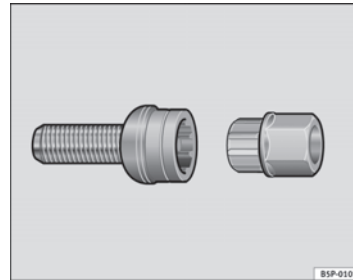

Fig. 178 Anti-theft wheel bolt
- Insert the adapter onto the wheel bolt and push it on as far as it will go → Fig. 178.